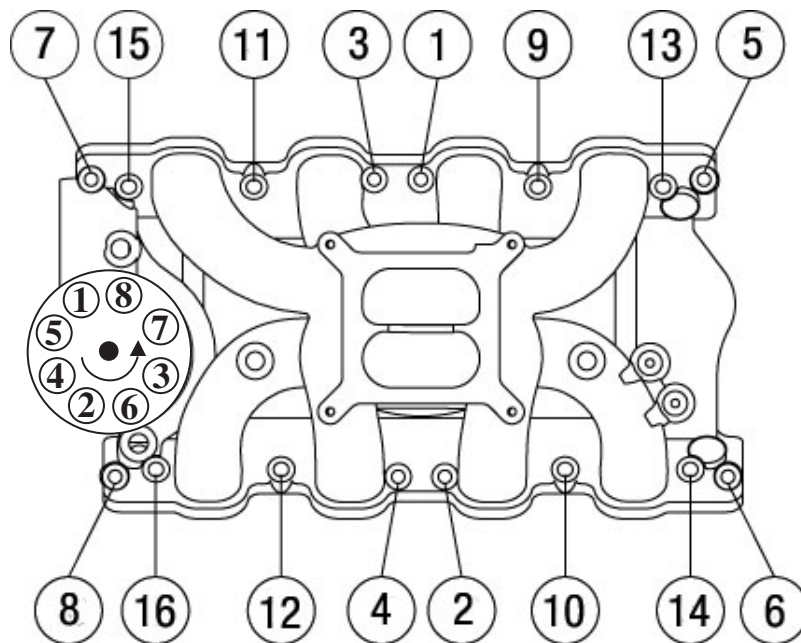

Figure 1 - 351C Ford Torque Sequence
- **MOUNTING HARDWARE:** These manifolds require a total of sixteen (16) intake manifold bolts to be properly secured. You will need eight (8) bolts that are 3/8"-16 and 1-3/4" long, and eight (8) bolts that are 5/16"-16 and 2" long. All sixteen (16) bolts will require chamfered hardened steel washers between the manifold and the head of the bolt. The longer bolts will thread through the vertical bosses, while the shorter bolts will mount perpendicular to the flange. See **Figure 1** for the proper torque sequence.
5. Install the intake manifold and hold-down bolts. The eight (8) 5/16" bolts will be installed in the vertical bosses (1-8 of the torque sequence) and should only be torqued to 10 ft/lbs at this time. The eight (8) 3/8" bolts will now be installed in the flange holes (9-16 of the torque sequence) and tightened to 15 ft/lbs. Now tighten the vertical 5/16" bolts to 20 ft/lbs in sequence, and then the 3/8" flange bolts to 30 ft/lbs, once again following the torque sequence shown in Figure 1.